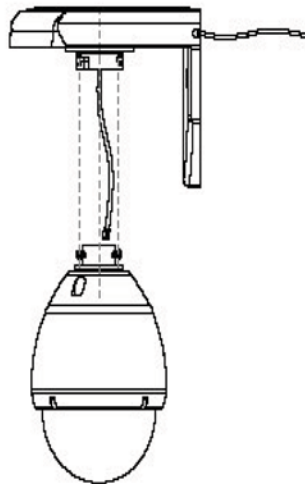
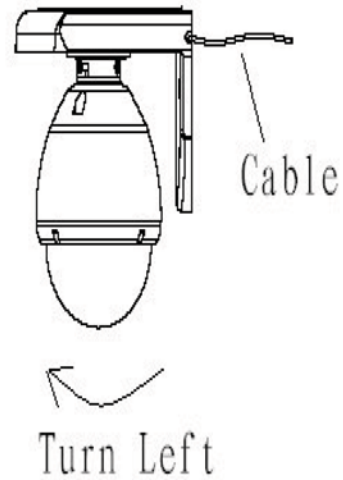

Fig.6
Fig.7
- (3) Lock the panel with four screws (3*10 type) on the wall bracket(Fig.6)
- (4) Connect the RJ45 with the bottom of the speed dome.
- (5) Put the waterproof film into the bottom of the speed dome closely.
- (6) Put the speed dome into the groove and turn left,lock the screws to connect the panel of the wall bracket (Fig.7).